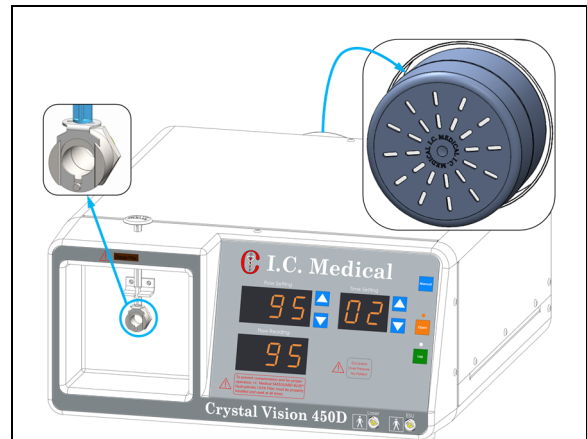

Figure 18: Input Filter Connector holds **SAFEGUARD BLUE®** Hydrophobic ULPA Filter with Built-in Fluid Trap. Large Coconut Charcoal Output Filter
14. **INPUT FILTER CONNECTOR** (Figure 18) holds the **SAFEGUARD BLUE®** Hydrophobic ULPA Filter with Built-in Fluid Trap. The metal ring is pushed down to allow the **SAFEGUARD BLUE®** Hydrophobic ULPA Filter with Built-in Fluid Trap, to be released. Replace cap on end of **SAFEGUARD BLUE®** Hydrophobic ULPA Filter with Built-in Fluid Trap between uses. Change the **SAFEGUARD BLUE®** Hydrophobic ULPA Filter with Built-in Fluid Trap when **CHANGE FILTER** indicator illuminates.
15. **Large Coconut Charcoal OUTPUT FILTER CONNECTOR (connector not shown)** (Figure 18). The Large Coconut Charcoal OUTPUT FILTER CONNECTOR is located on the back panel of the CRYSTAL VISION®. The Large Coconut Charcoal Output filter- is reusable for several cases. The Large Coconut Charcoal Output filter has a functional life of three months. The Large Coconut Charcoal Output filter provides odor control and reduces vacuum pump noise.